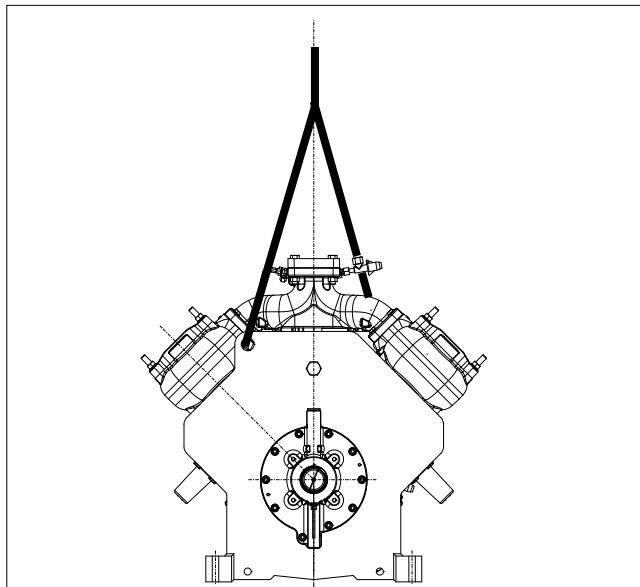

Fig.3: Hoisting angle
Determine the dead weight of the particular component (see "Product Information (ED)"), prior to moving a bare compressor or loose component. Use the hoisting eyes only, DO NOT sling from other compressor parts (see Figure 3, Page 15).